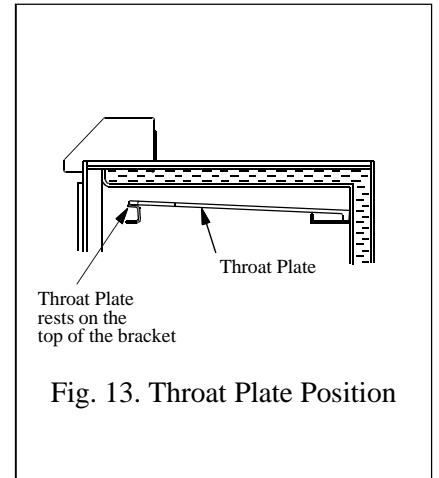

Fig. 13. Throat Plate Position
3. The throat plate must be fitted in the roof of the appliance - see Fig. 13.